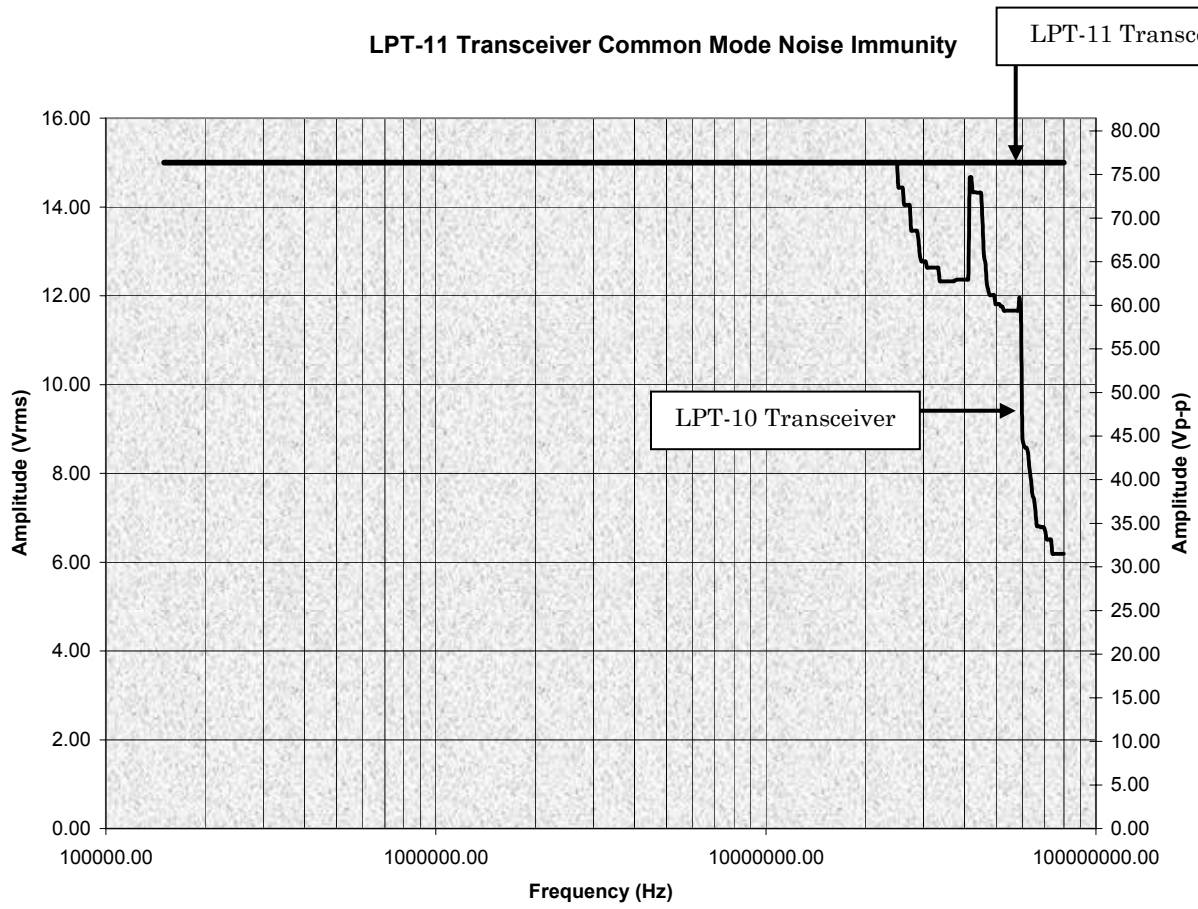

Figure 6.6 LPT-11 Common-Mode Noise Immunity
Figure 6.6 shows the EN 61000-4-6 common-mode (CM) noise immunity of the LPT-11 transceiver in a typical device during a 15Vrms scan using unshielded twisted pair. The LPT-11 transceiver-based device passes the 10Vrms EN-61000-4-6 Level 3 scan with good margin. For comparison, the CM noise immunity of the LPT-10 transceiver is also plotted in the figure. The CM noise immunity of the LPT-11 transceiver is significantly better than the LPT-10 transceiver.